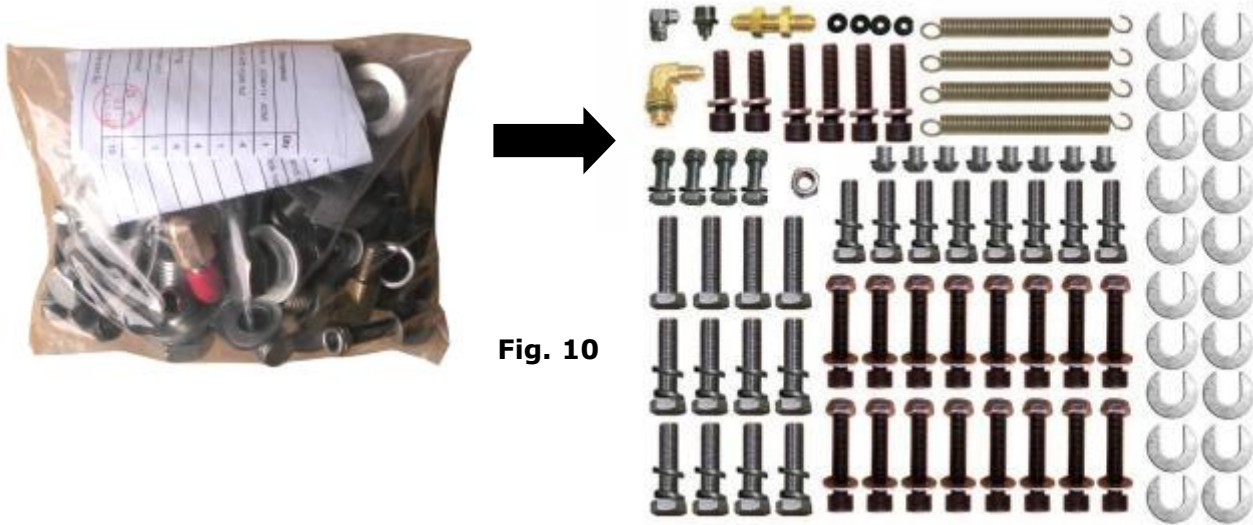

Fig. 10
7. Check the parts of the parts bag according to the parts bag list (See Fig. 10).